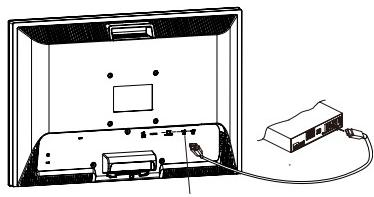

Figure 1-8
1. Connect the USB UP Stream Cable to the LCD Monitor. (See Fig. 1-8)